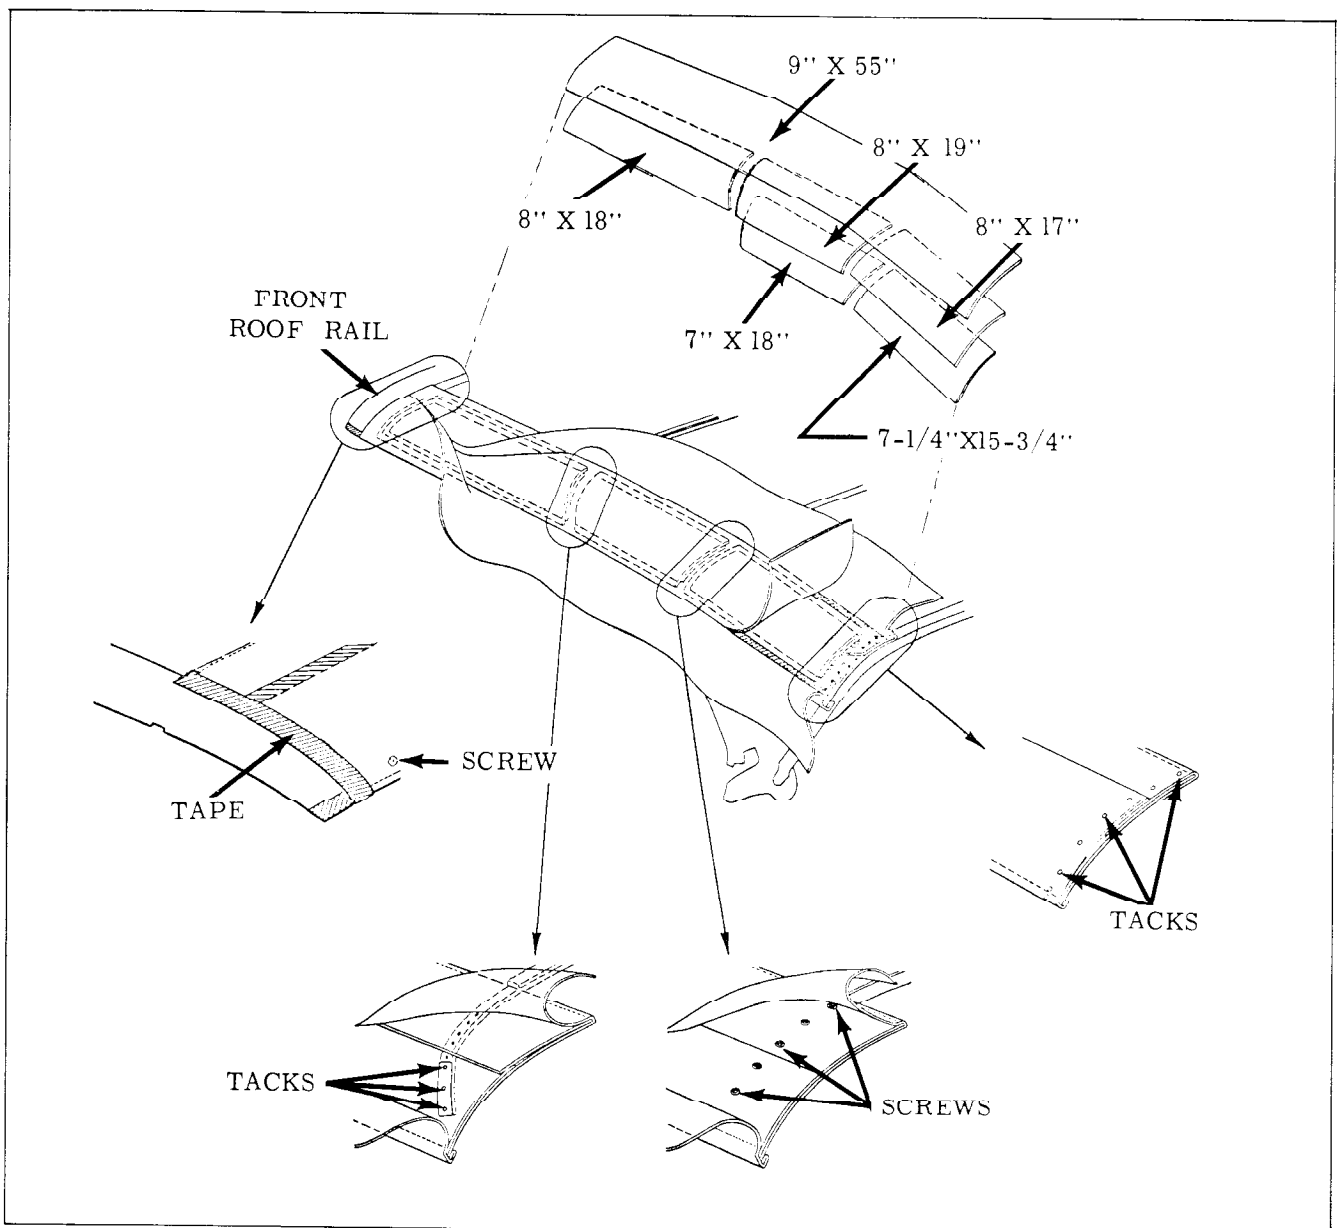

Fig. 15-91 Installation of Side Stay Pads
3. Tack side stay pads in conventional manner to rear roof bow and front roof rail. Make sure inboard edge of pad is properly aligned within depressions in bow and rail. Tack stay pad to front bow. Inboard edge of pad should be located within 1/4 inch of outboard edge of front bow felt silencer. Install pad to center bow with screws. Make sure inboard edge of pad is properly aligned within depression in bow. Install stay pad wadding in conventional manner using an approved trim cement. (Fig. 15-91)